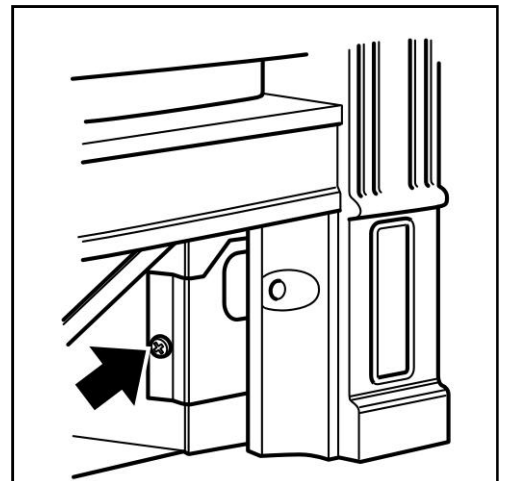

Figure 25. Fascia securing screws (fascia may differ from that shown).
1. Fit the fascia to the appliance by locating the top to the upper hanging brackets (See figure 24), then attaching it to the body of the appliance using the two screws supplied (See figure 25).
2. Connect the control linkage to the control pivot plate using the shouldered screw and using a screwdriver (NOT finger tight only) (See figure 25).
4. Fit the fascia to the appliance by locating the top to the upper hanging brackets (Figure 24), then attaching it to the body of the appliance using the two screws supplied. If using the 'Hole in the wall' baffle, place the fascia brackets over the baffle and secure using the two screws for securing the fascia (See Figure 25).